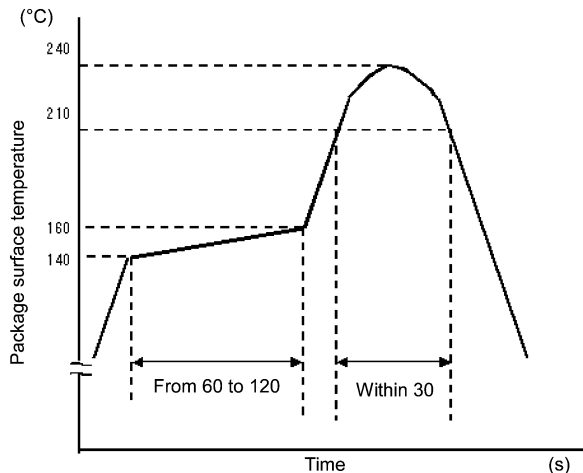

Fig. 12.1.1 An Example of a Temperature Profile When Sn-Pb Eutectic Solder is Used
- When using soldering reflow (See Fig. 12.1.1 and 12.1.2)